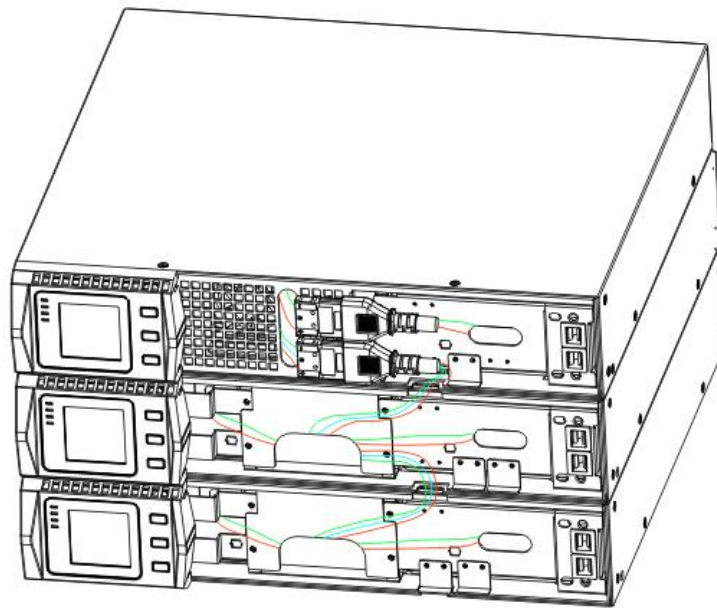

Figure12 Typical EBP Installation
2. On the bottom of the UPS front cover, remove the EBP cable knockout (see Figure 12).